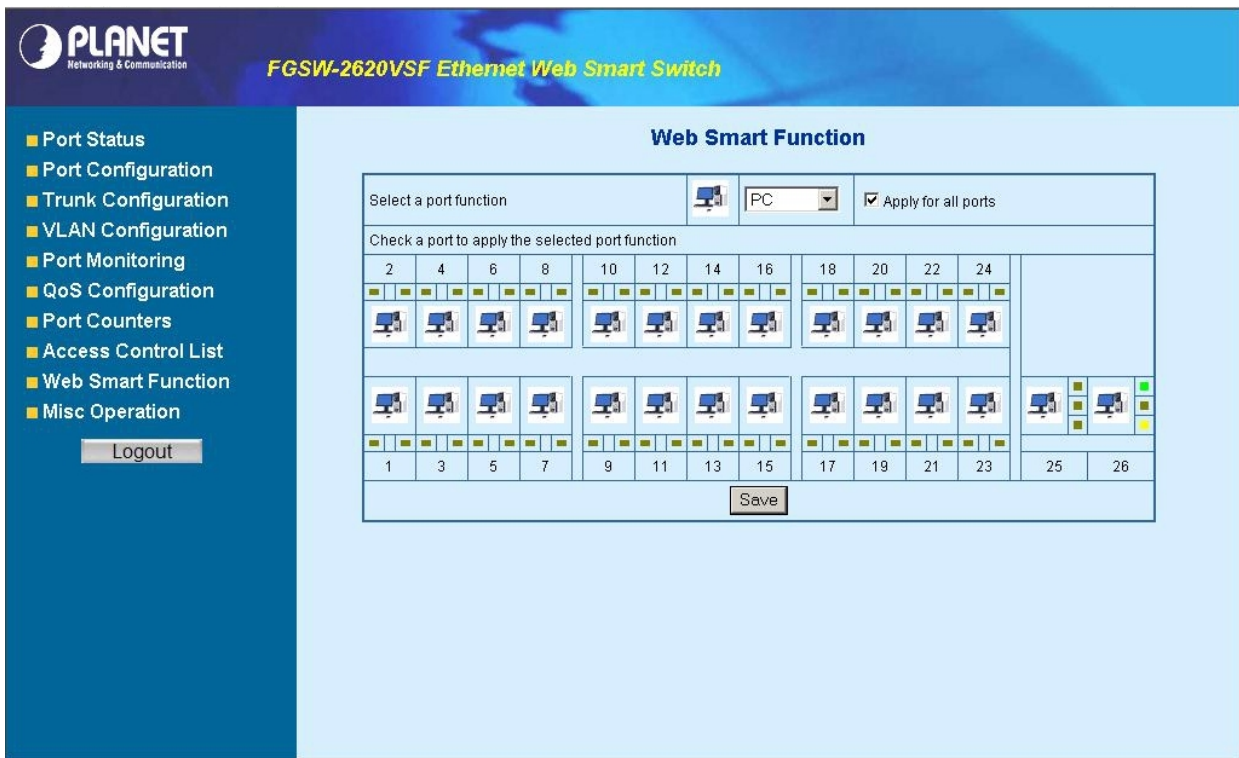

Figure 4-68 Web Smart Function Web Page screen
4. Please press “**Back**” for return to Web Smart Function screen, the screen in Figure 4-68 appears.
2. Check any port then all port will be select; the screen in Figure 4-68 appears.